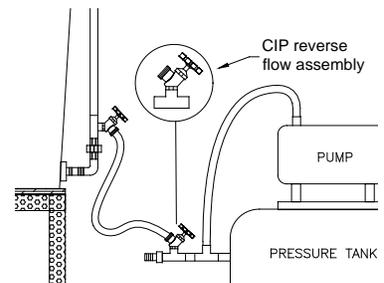

Figure 9-2
Step 4. Connect the CIP hose to the CIP reverse flow valve downstream of the pump. Open the valve to ensure that the flow rate restriction device is limiting the flow rate to approximately 4 litres per minute to prevent damage to the filter media. Connect the other end of the hose to the lower valve on the filter standpipe (figure 9-2). Open both valves and dispel any air in the line through the anti-siphoning valve. Close the anti-siphoning valve.
Step 3. Connect the CIP hose to the CIP reverse flow valve downstream of the pump. Open the valve to ensure that the flow rate restriction device is limiting the flow rate to approximately 4 litres per minute to prevent damage to the filter media. Connect the other end of the hose to the lower valve on the filter standpipe (figure 9-2). Open both valves on the CIP hose and dispel any air in the line through the anti-siphoning valve. Close the anti-siphoning valve.